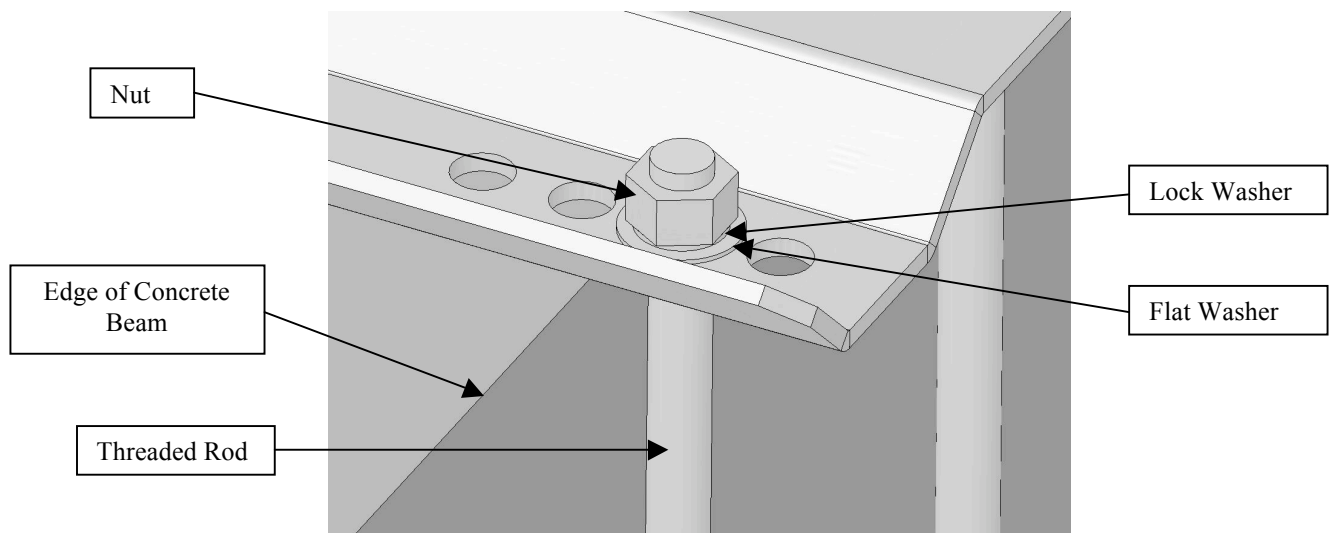

Figure 4 – Assembly of Threaded Rod
3. Install lock washers, flat washers, and nuts onto the supplied ¾-in. threaded rods (see Figure 4) into the upper plate.